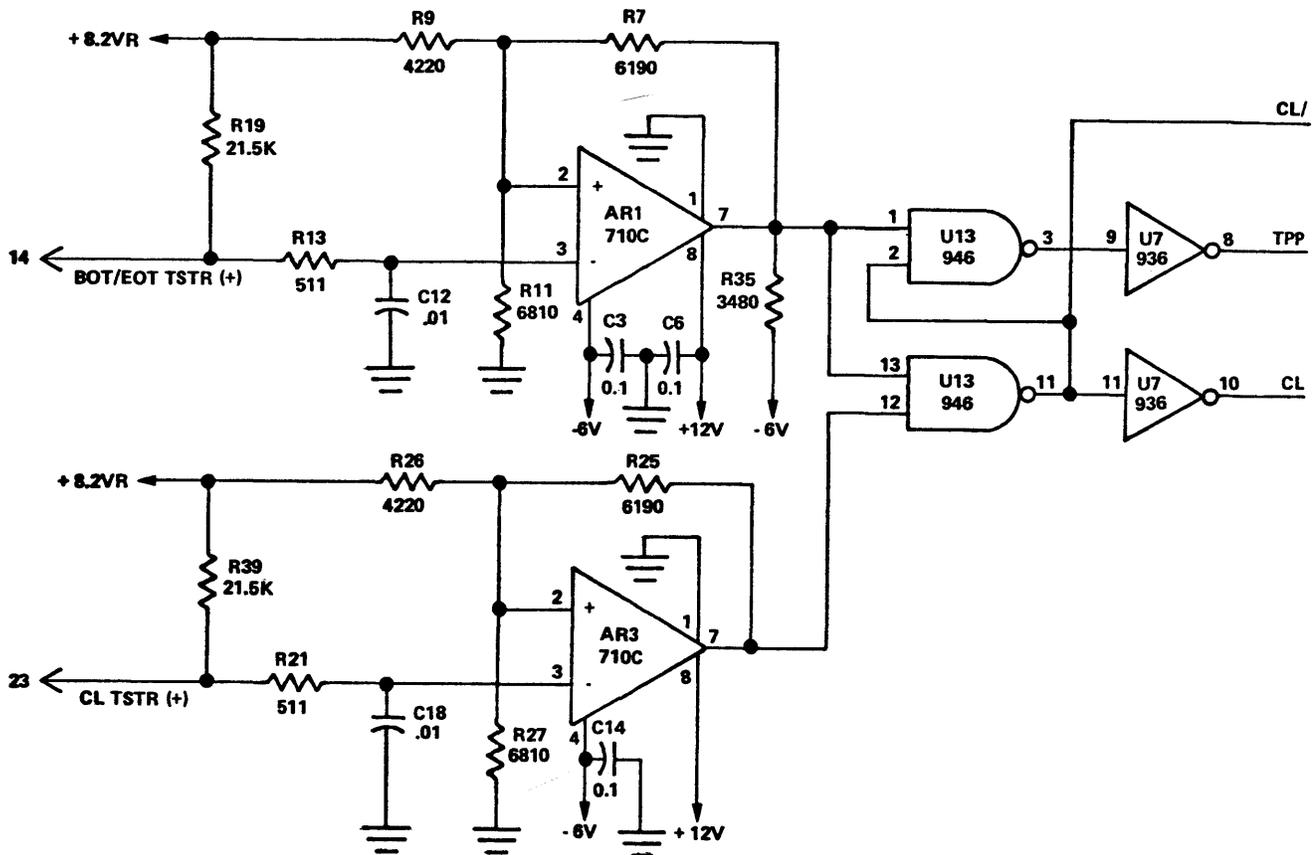
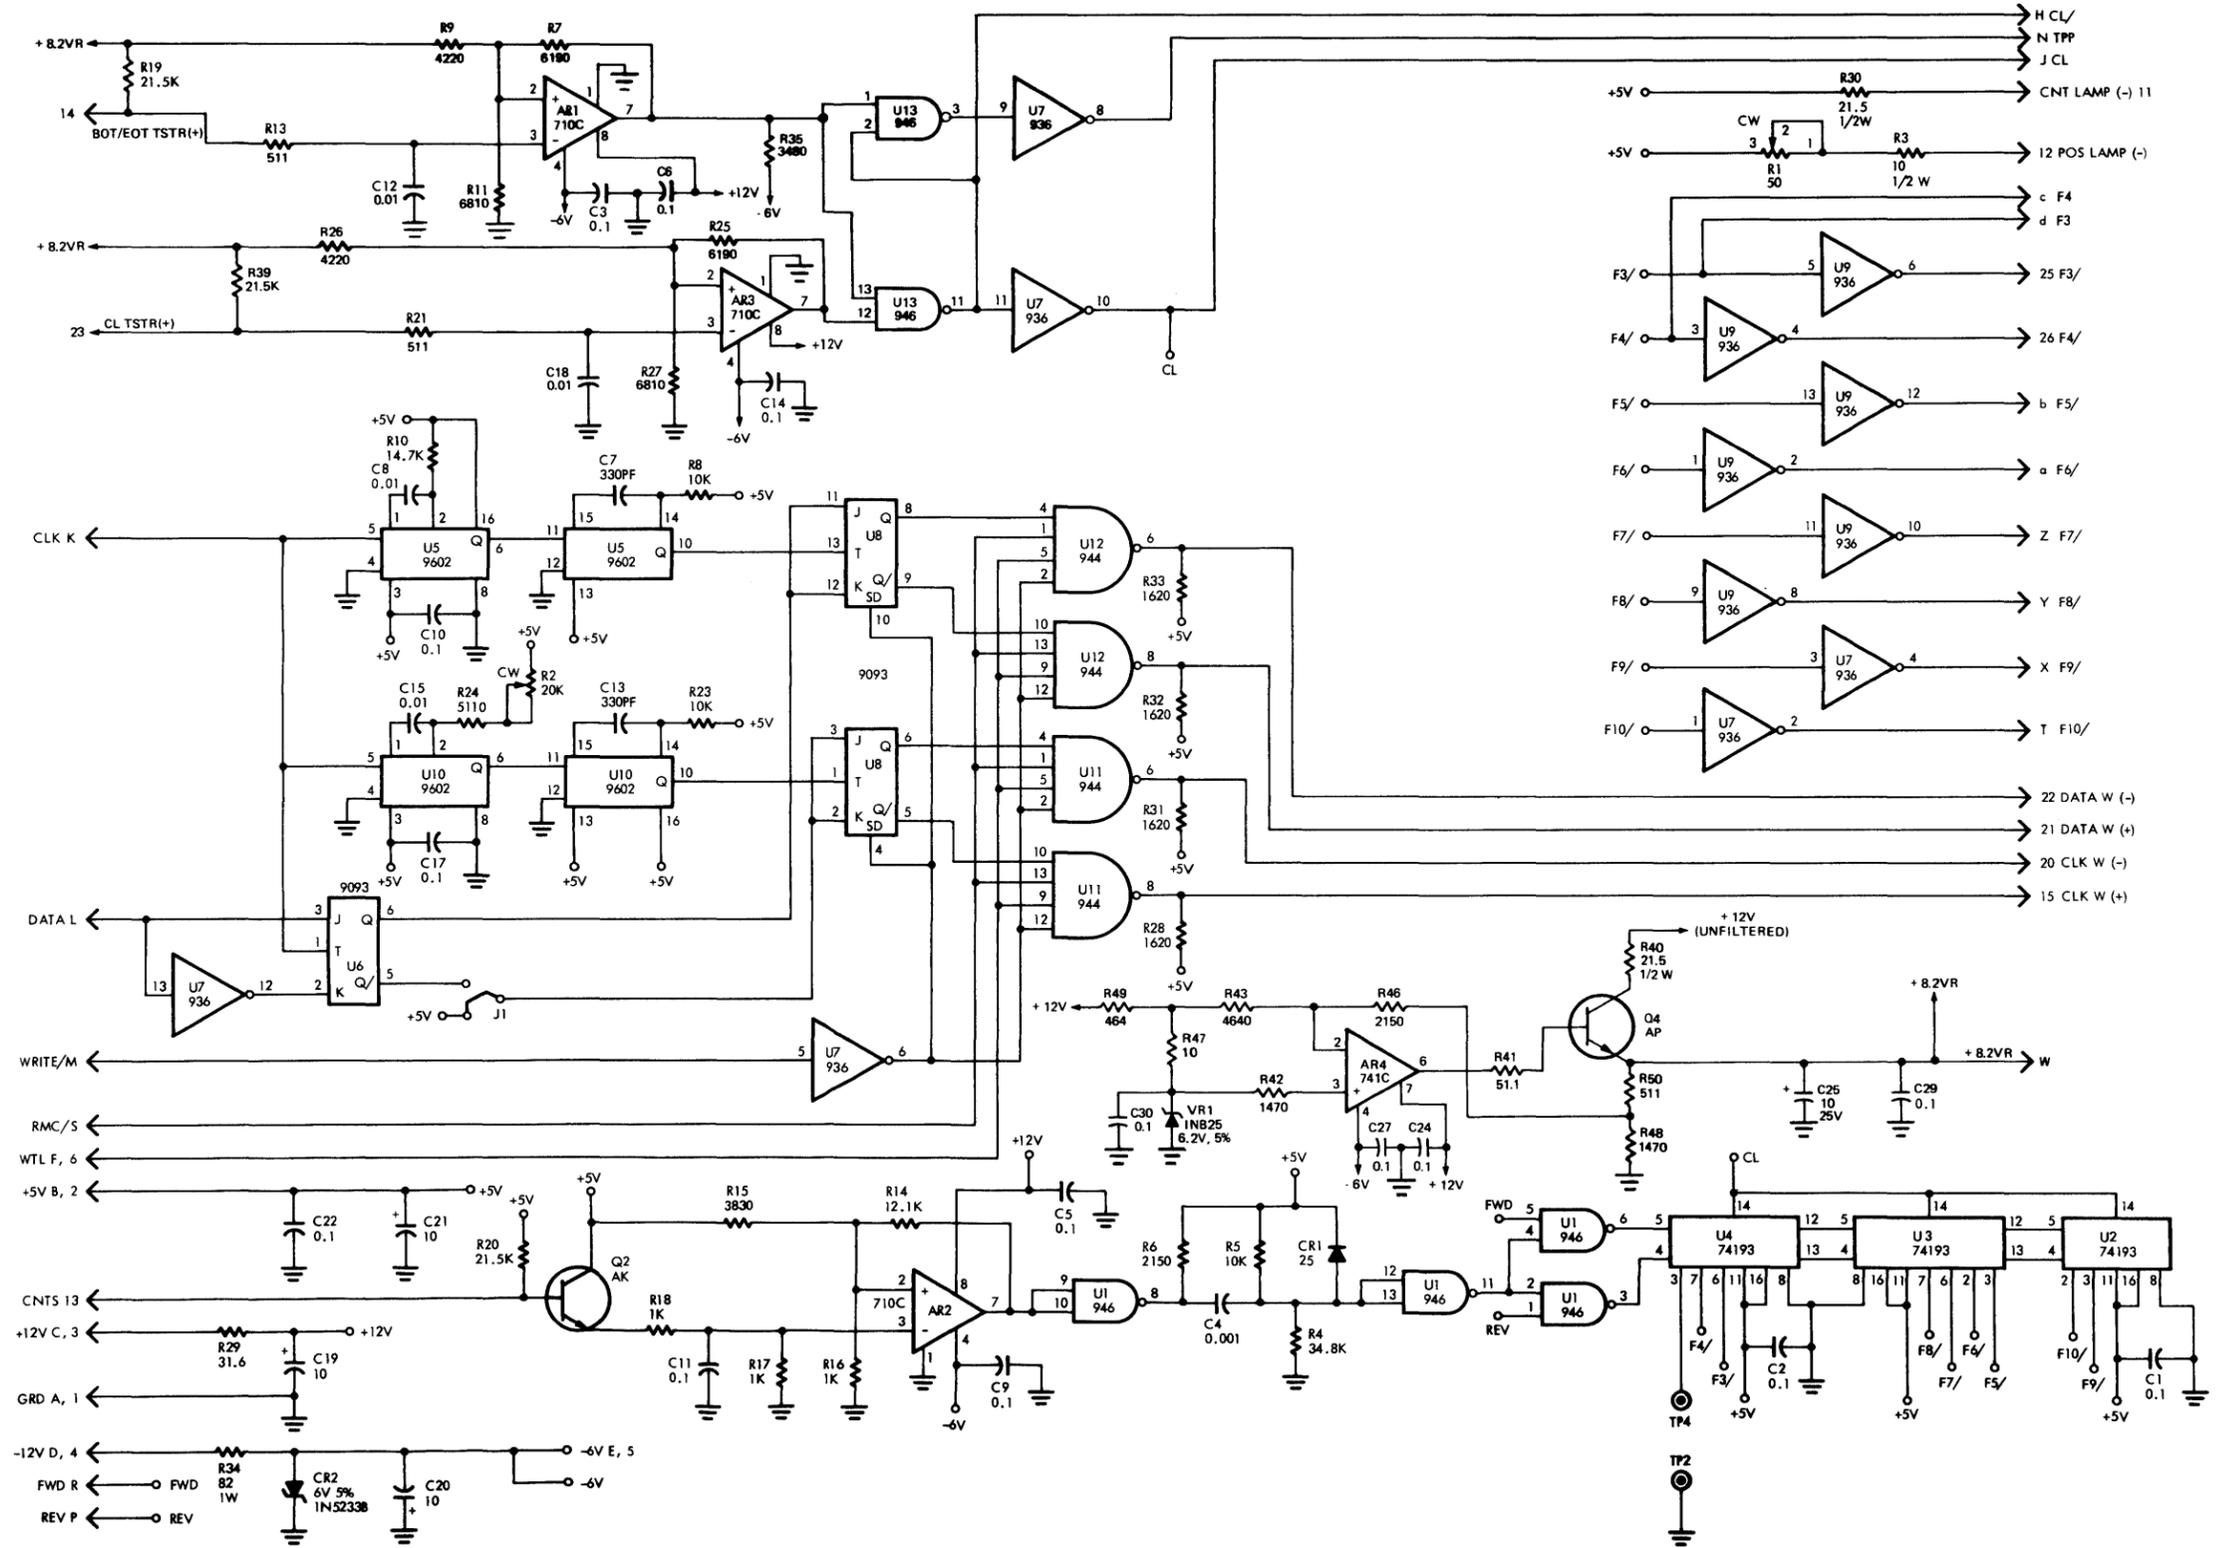

Figure 2-4. Dual Light Pipe Sensing Circuit
Figure 2-7. Write Card
When clear leader is sensed, the photo-transistor conducts much more current than when sensing the tape position hole. This drops Q1 emitter voltage to a value low enough and for a period long enough to allow C18 to discharge, and the output of AR3 (CL) goes high. TPP also is sensed at this time; but at the same time, CL resets the TPRL flip-flop on the Logic Card (figure 2-4).
See figure 2-4. The dual light pipe circuit uses two photo-transistors and two lights, one for sensing of clear leader and the other for sensing the end-of-tape (EOT) and beginning-of-tape (BOT) markers. Each sensor has its own circuit, and the two are identical in operation. When light is sensed by the photo-transistor, it begins to conduct and drops the voltage level at the negative input to its associated differential comparator (AR1 or AR3) below the reference voltage at the positive input. The differential comparator input goes high. The output pin 3 of gate U13 goes low, indicating the sensing of either BOT or EOT as long as clear leader is not being sensed (U13 pin 1 is high). When clear leader is sensed, the output of both differential comparators goes high, causing the output pin 11 of gate U13 to go high, indicating clear leader and disabling the indicating of TPP (EOT or BOT).
The term FWD, which was generated on the Logic Card (figure 2-4) during the initial portion of the drive command, is sent to the NRZ Write Card (figure 2-7) input pin R and enables gate U1-6 whose other input is fed as described under Servo Control in this section. Gate U1-6 is used with the reverse gate U1-3 to control the direction of the counter circuit. Backward drive is selected in the same manner by BDL/ going low; and the term REV is used to control the direction of the counter circuit (figure 2-7) through gate U1-3.
See figure 2-7. The CNT PHOTO CELL (+) is a pulse developed by a photo-transistor which senses light through a hole in the supply reel spindle once each revolution. As the photo-transistor senses light, the output of the differential comparator AR2 goes low, and thus the output of U1-8 goes high. The trailing edge of the pulse generated by the photo-transistor and seen at U1-8 causes capacitor C4 to discharge, which in turn will cause a very short negative-going spike to ground at pins 12 and 13 of U1-11. The output of U1-11 is a short positive pulse which is used to up-count or down-count the counter circuit (U2, U3, and U4) through U1-6 (forward drive, up-count) or U1-3 (reverse drive, down-count).
See figure 2-7. The clock and data lines enter the card at pins K and L. At clock time the data toggles the J-K flip-flop if a 1-bit is to be written. If a 0-bit is to be written, no pulse will be on the data line at clock time and the flip-flop will remain in its prior state. The delays U5-6 and U10-6 are triggered by the same clock pulse and are used to displace the time between the data and clock pulses in order to compensate for delays inherent in the write circuitry and write head. The displacement in time will be seen at the negative transition at the end of the multi time. U5-6 has a fixed time of 50 microseconds, and U1-6 is variable between 16.3 and 80.3 microseconds. Multis U5-10 and U10-10 are fixed at 1 microsecond and are triggered by the negative transition of their prior multi. These 1 microsecond pulses toggle the data and clock information flip-flop (U8) which switches the write head coils through gates U11 and U12, thus writing the information on tape. With the delays properly adjusted, the data pulse and its clock pulse will be in perfect alignment when written on tape.